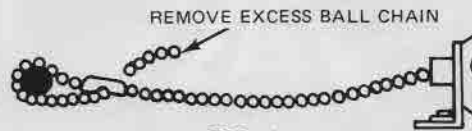

FIG. 4
- The coarse speed adjustment should be made as shown in FIG. 4